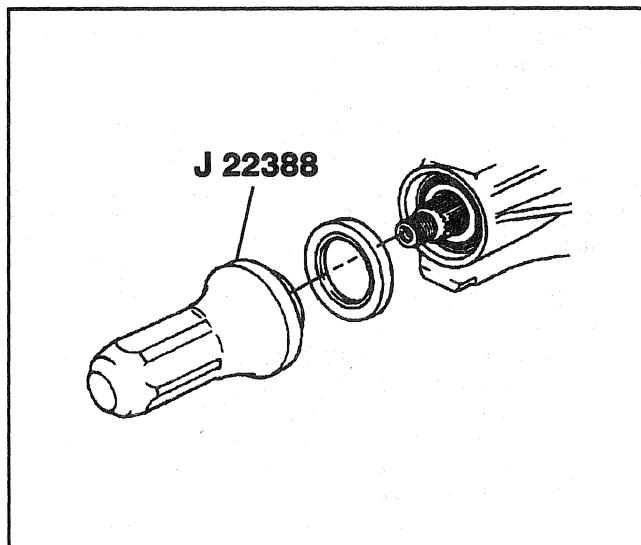
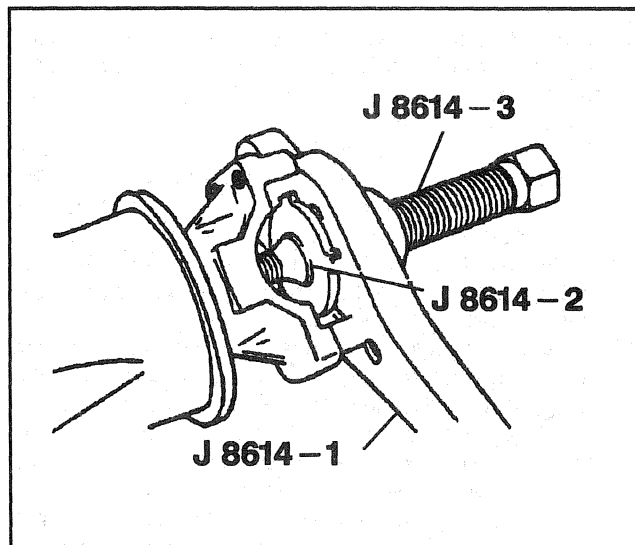

Figure 15—Installing the Pinion Oil Seal
Figure 16—Installing the Pinion Flange
- 1. The pinion inner bearing (5) using J 8609-01.
- 2. A new collapsible spacer (4).
- 3. Pinion (7) to the axle housing.
- 4. Outer pinion bearing (39) onto the pinion using J 5590.
- 5. Pinion oil seal (38) using J 22388 (Figure 15).
- 6. Pinion flange (37) to the pinion by tapping it with a soft faced hammer until a few threads show through the pinion flange.
- 7. Pinion washer (36) and a new nut (35) while holding the pinion flange with J 8614-01 (Figure 16).